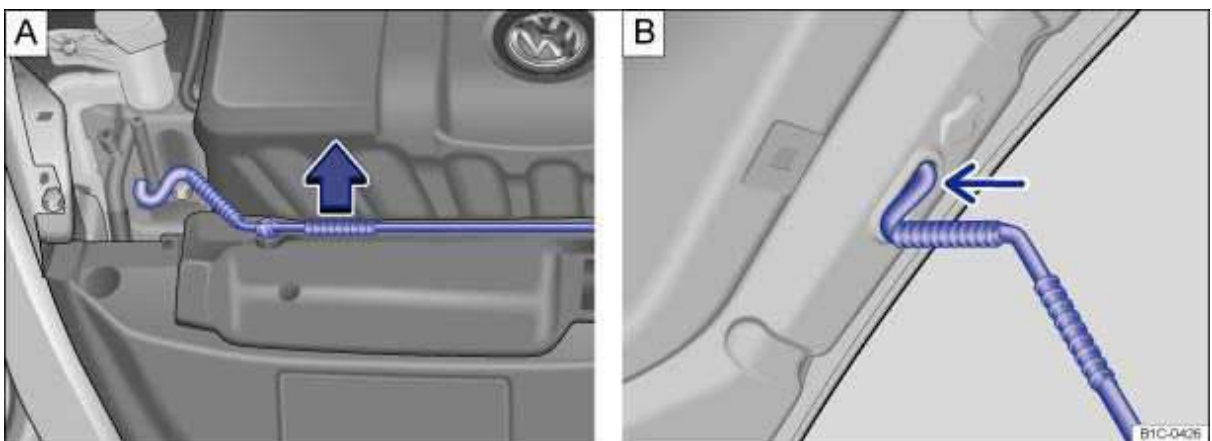

Fig. 115 A: Bracket for hood support in the engine compartment. B: Hood propped open.
- Pull the hood support out of its bracket in the direction of the arrow ⇒ fig. 115 A and insert it into the opening in the hood .